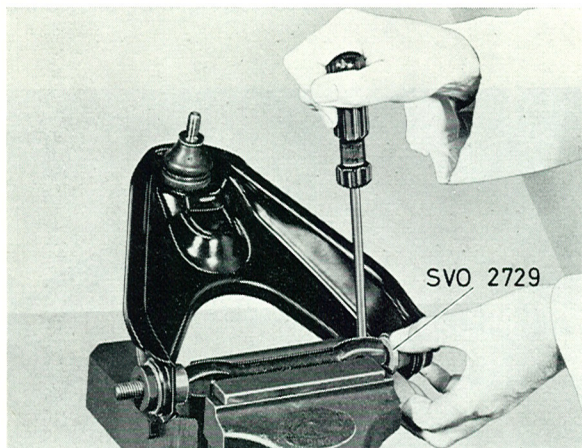
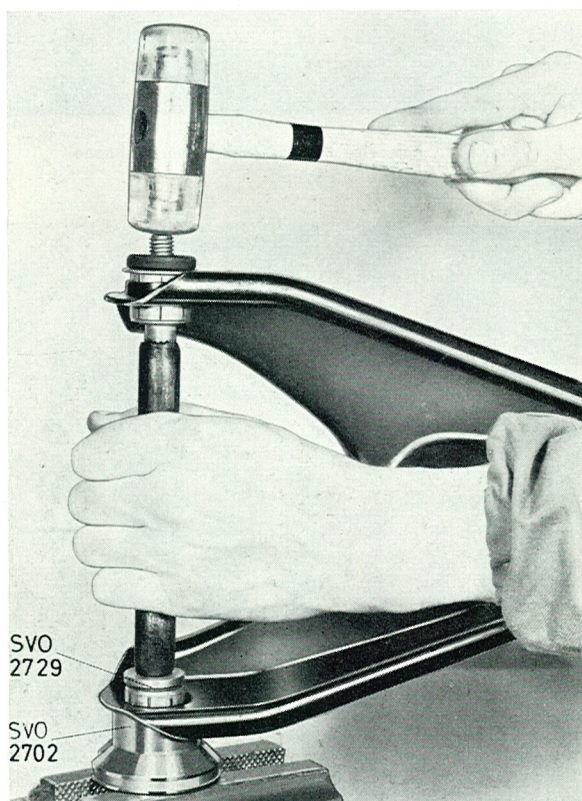

Fig. 6-25. Removing the wishbone shaft. 1. Fit tool 2729
Fig. 6-26. Removing the wishbone shaft. 2. Drive out the shaft
2. Fix the wishbone shaft securely in a vise. Carefully bend out the wishbone ends so that tool SVO 2729 can be fitted, see Fig. 6-25. Drive out one of the bushes with a fiber club and tool SVO 2702, see Fig. 6-26. Turn the wishbone, move tool SVO 2729 over to the other side and drive out the other bush in the same way as for the first one.